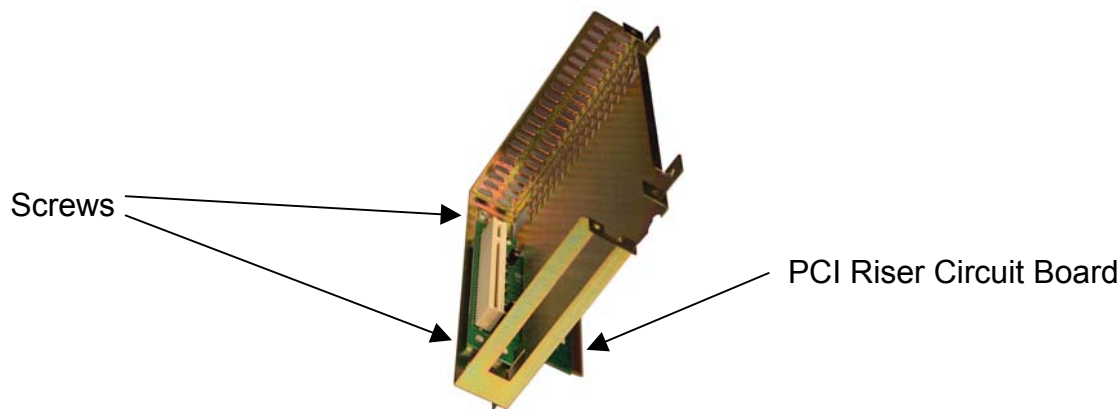

Figure 1: PCI Riser Circuit Board Installation
1. Insert the PCI Riser circuit board into the metal housing part that has 2 rectangular openings. Slide the gold fingers through the bottom opening as shown in Figure 1.